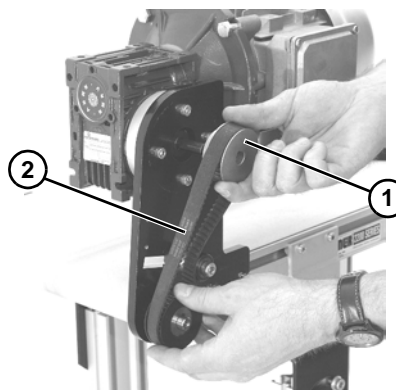

Figure 25
If drive pulley (**Figure 25, item 1**) is replaced, wrap timing belt around drive pulley and complete step 3.
3. Loosen drive pulley set screws on drive pulley (**Figure 25, item 1**). Remove drive pulley and timing belt (**Figure 25, item 2**).
Drive pulley (Figure 25, item 1) is removed. Wrap timing belt around drive pulley and complete step 11.